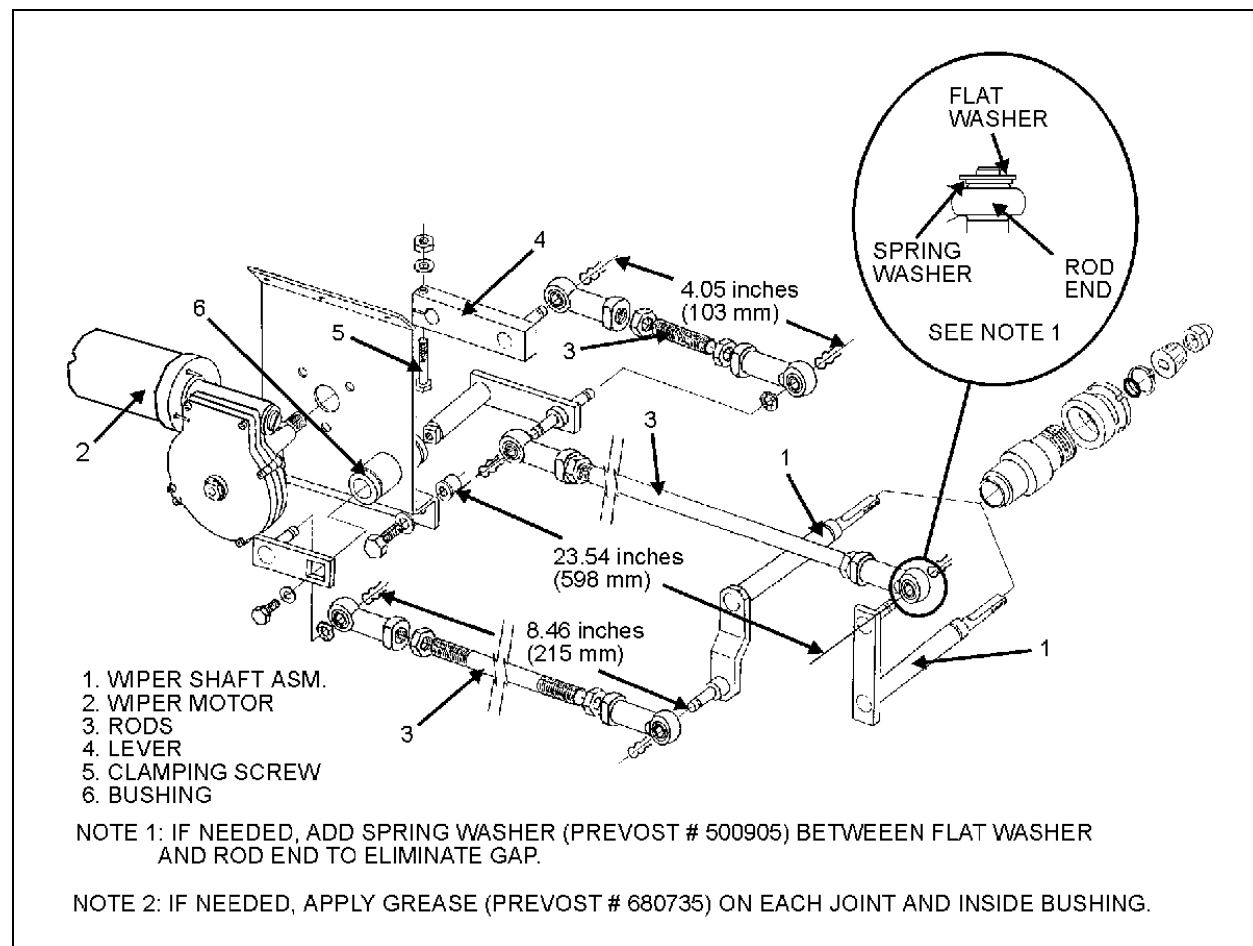

FIGURE 39: UPPER WINDSHIELD WIPER INSTALLATION
7. Loosen the bolt retaining the lever at the end of the motor driving shaft (Figure 39).